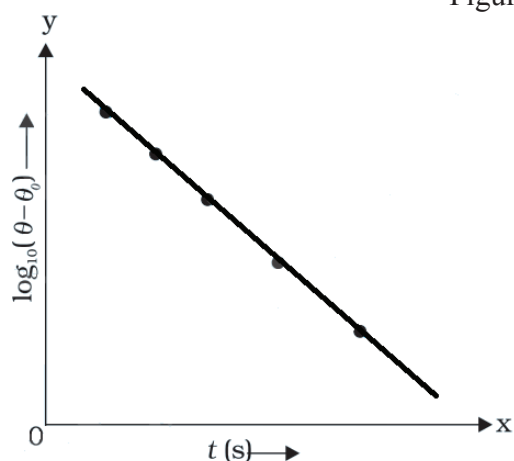

Figure 3
2. Plot a second graph between  $\log_{10}(\theta - \theta_0)$  and time 't' as shown in figure 3, taken 't' along x-axis and  $\log_{10}(\theta - \theta_0)$  along y-axis.